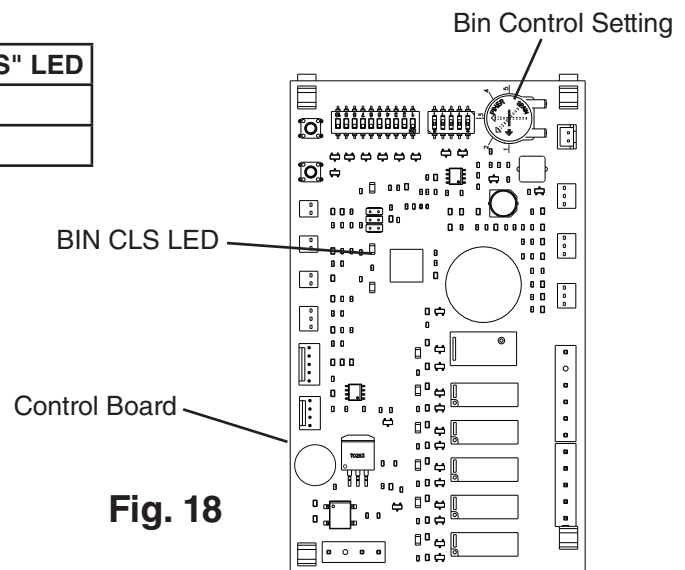

Fig. 18
- 4) Confirm the control board "BIN CLS" LED is off (bin empty). See Fig. 18.